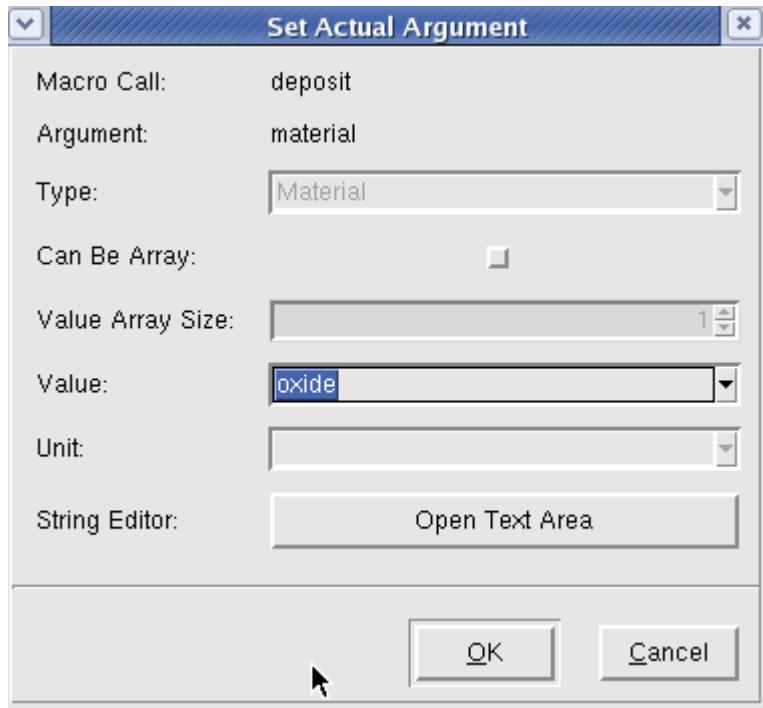
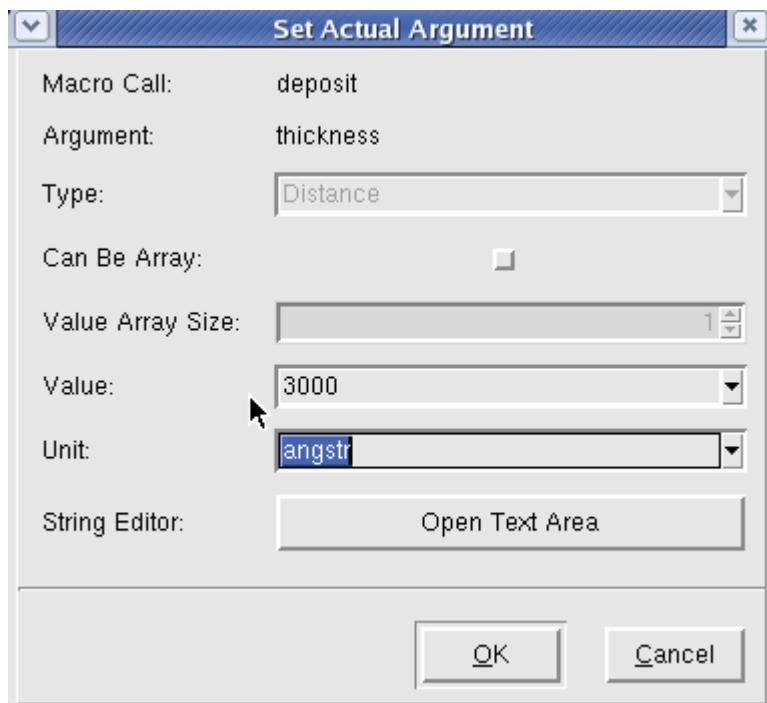
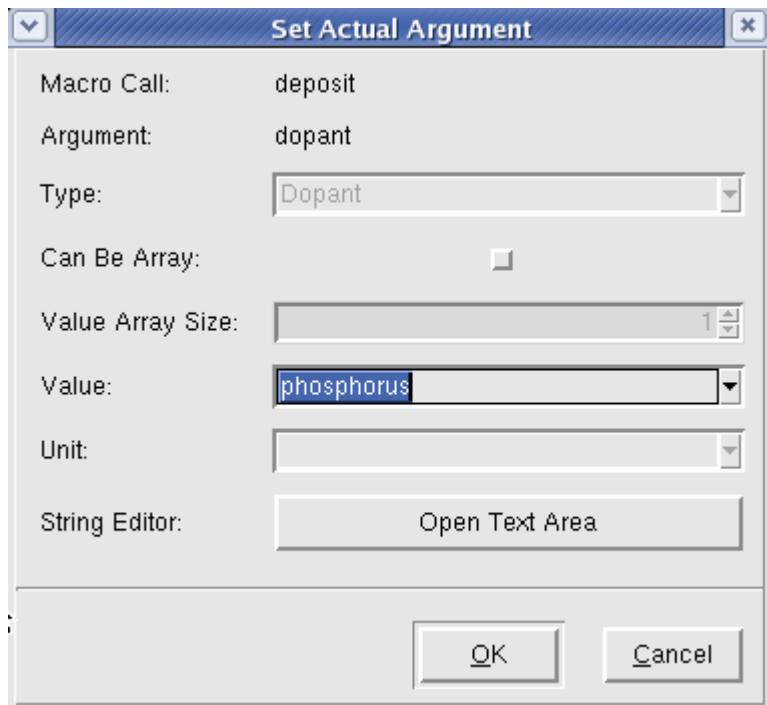
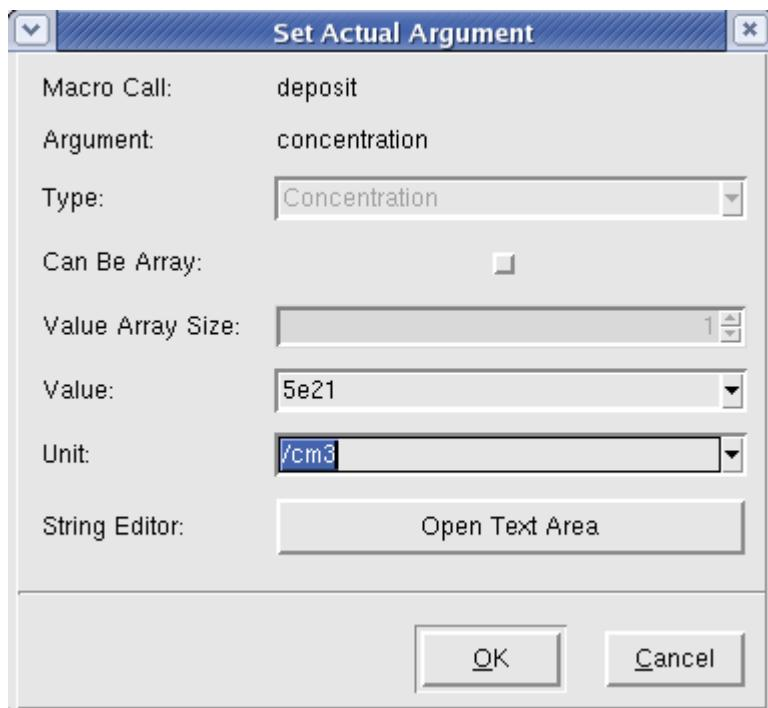

Figure 59: Set the Material type to oxide.
Figure 60: Set the thickness to 3000A.
Figure 61: Setting the doping type to P.
Figure 62:Setting the concentration.
9. Set the material to Oxide (Figure 59), the thickness to 3000 Angstroms (Figure 60), the dopant to phosphorus (Figure 61), and the concentration to  $5e21 / \text{cm}^3$  (Figure 62). Save your GUI ligament flow.